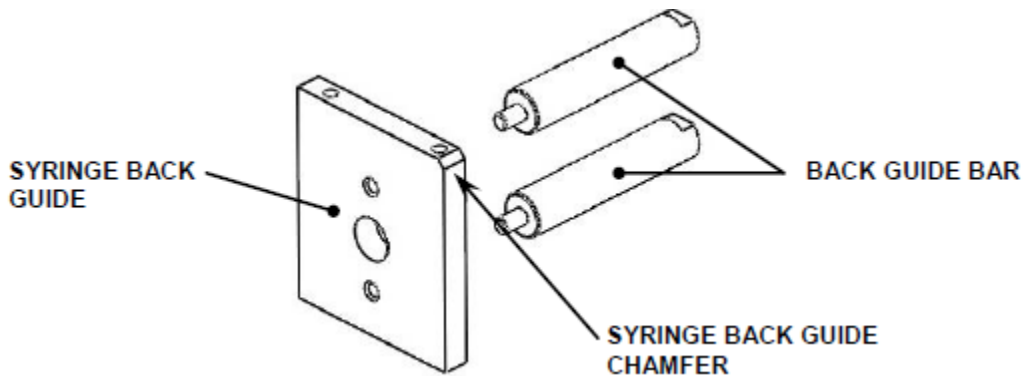

Figure U-25: Screwing two Syringe Back Guide Bar on the Syringe Back Guide
5. Screw two Syringe Back Guide Bar on the Syringe Back Guide using Loctite 222 as shown in Figure U-25 (note chamfer position on the Syringe Back Guide).